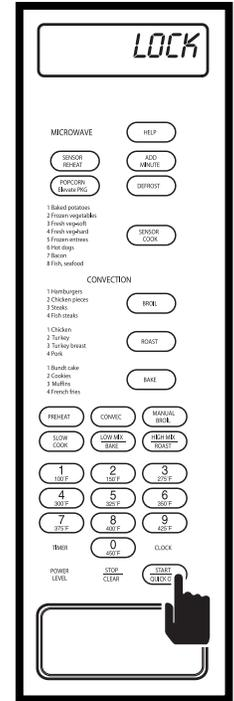

Figure 3-62.
3. For this example, the QUICK ON/START key is pressed, initiating the Child Lock Feature. Display will then show time of day. (See Figure 3-62) With the Child Lock Feature on, all keys on the control panel, except the HELP key, will be disabled. If any of the keys are pressed, except the HELP key, "LOCK" will flash on the display.